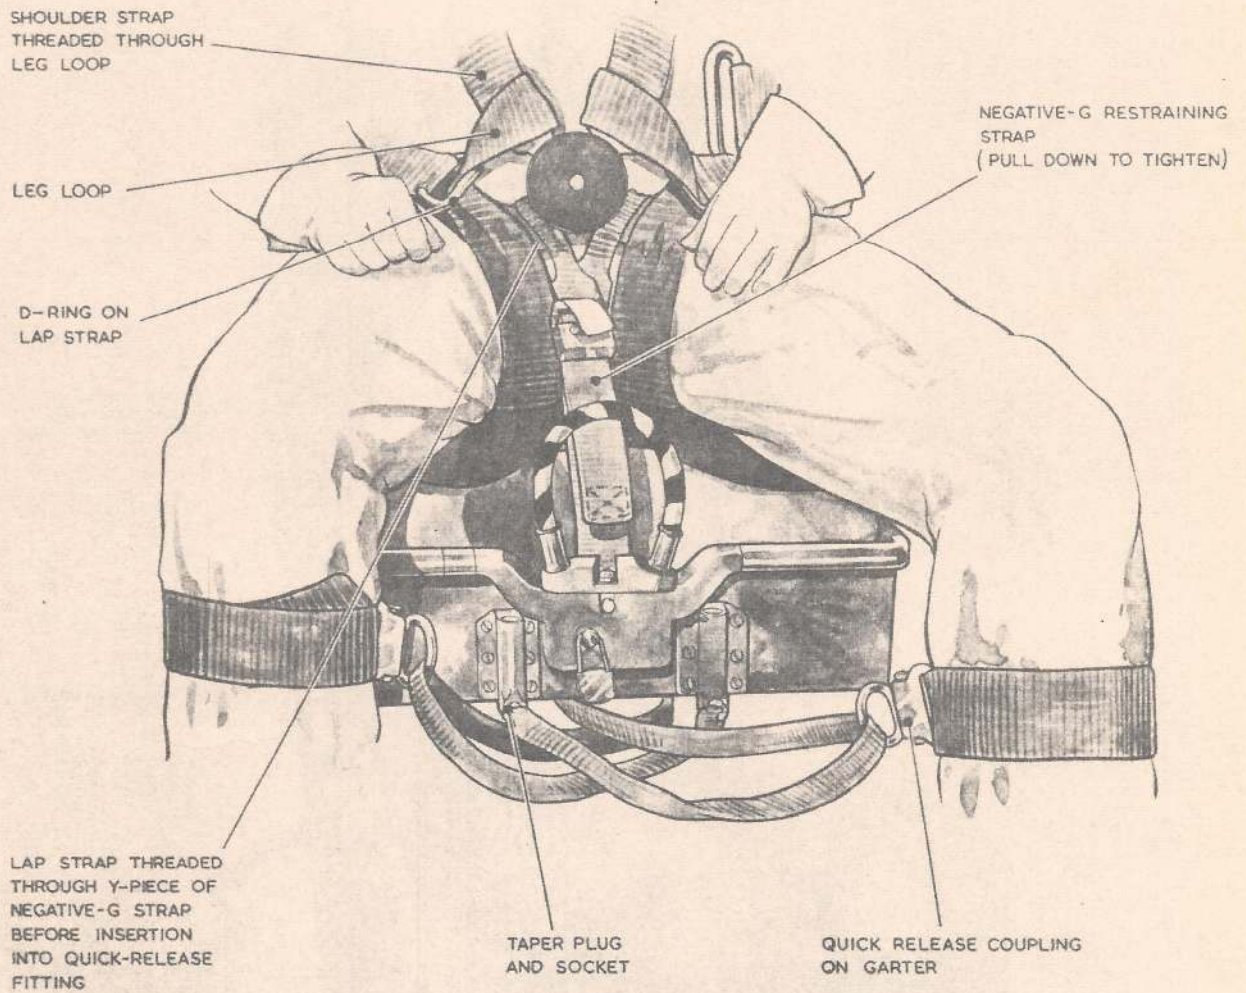

Fig. 5. Arrangement of leg restraint cords and harness
17. The procedure is as follows; refer to fig. 5, 6 and 7 for detail as necessary:-
This will result in crossing the cords; it does not matter which cord is in front, but they must not be interlaced (*fig. 5*).
- (6) Pull back any excess of leg restraint cord through the snubbing units, leaving enough slack for full rudder movement.
- (7) Bring the harness waistbelt across the body. Adjust the quick-release fitting so that it lies central with the waistbelt close to the body.
- (8) Ensure that the blue 'Y' piece of the negative-G strap is positioned to the REAR of the seat pan firing handle and DOES NOT PASS THROUGH THE FIRING HANDLE. Pass the right-hand lap strap lug through the loop in the right-hand fork. Clip the lug of the lap strap into the quick-release fitting.
- (9) Pass the left-hand lap strap lug through the loop in the left-hand fork. Clip the lug into the quick-release fitting.
- (10) When correctly assembled, the two loops of the 'Y' piece cover the lap strap lugs on each side of the quick-release fitting (*fig. 5*). Tension the negative-G restraining strap and tighten the lap straps; it is most important that these are really tight, since they provide the principal restraint under all stress conditions. To tension the negative-G strap, pull DOWNWARDS on the blue strap. To loosen, pull DOWNWARDS on the yellow tab attached to the buckle.
- (11) Bring the leg loops up between the legs and thread the left loop through the metal eye on the left lap strap; thread the right loop through the metal eye on the right lap strap. If twisted correctly, the leg loops will lie flat on the inside of the thighs.
- (12) Remove the ends of the shoulder straps from the stowed position and arrange them under the life-jacket stole. Thread the end fittings through the leg loops and connect them to the quick-release fitting. The leg loops are to engage on the metal end fittings and not on the webbing above them, so that they will disengage freely on operating the quick-release fitting. To facilitate this engagement the shoulder straps should be fully extended (*fig. 5*).
- (13) Tighten the blue inner (underneath) shoulder straps of the harness, then tighten the brown outer (top) shoulder straps. When tightening harness straps, pull on the running end with one hand to relieve the tension on the buckle. After the first tightening, move the body about inside the harness and then re-tighten, repeating this process until the harness is really tight. Do not however, overtighten the shoulder straps, as this causes the back to arch, which is a bad attitude for ejection.
- (14) This tightening will ruck the section of the lift webs lying between the inner and outer straps. The assistance of a ground-crew member should be obtained to pull back the lift webs through the metal runners on the shoulders and then stow the excess neatly, by lengthening the loops in the lift webs behind the back.
- (15) Put on the flying and protective helmets, and fasten the chin straps. Fit and tighten the oxygen mask.